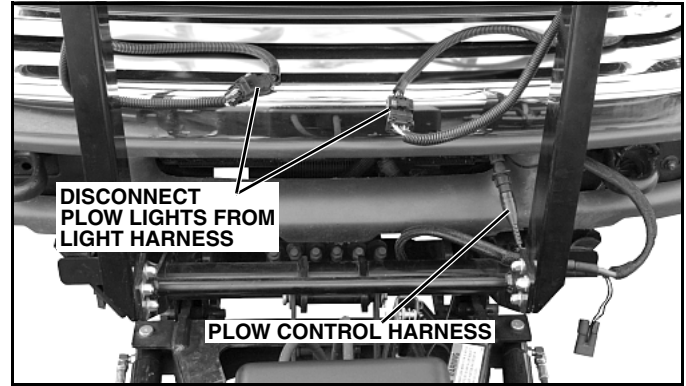

Figure 1-15
2. Disconnect the plow lights from the truck light harness (See Figure 1-15). Disconnect the plow control harness and replace the protective cap.